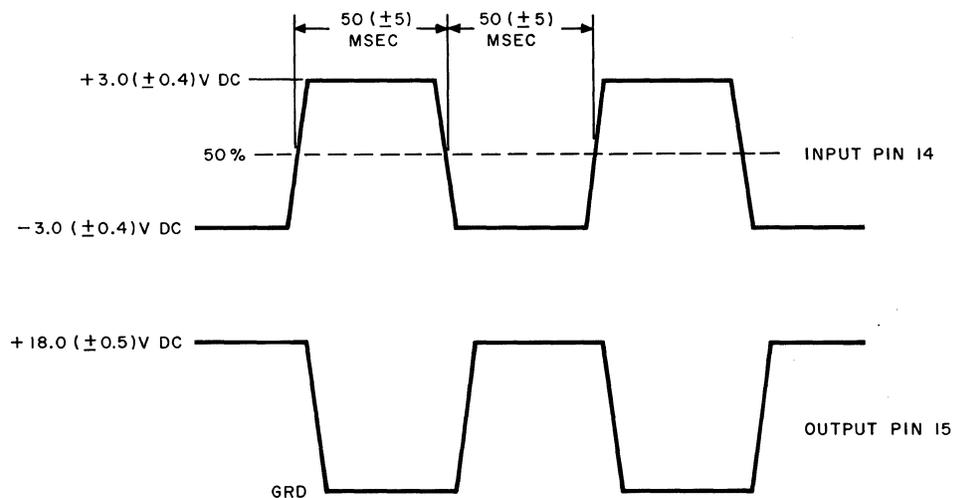

Fig. 48 — Remote Circuit Card Test
- (5) The input waveform at terminal 14 and the output waveform at terminal 15 shall be as specified in Fig. 48. No time base measurements need to be made.